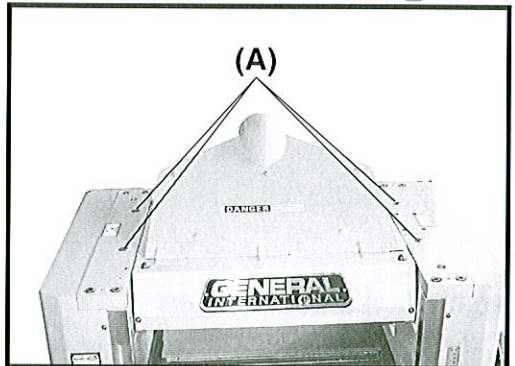

Fig. 7
The pressure of the feed roller will depend on the pressure set by the springs, and screws. To adjust the pressure, you must loosen or tighten the lever(A) There are two sets of springs on both ends of the feed roller, to ensure great results make sure both sides are at the same level pressure. (Fig.7)